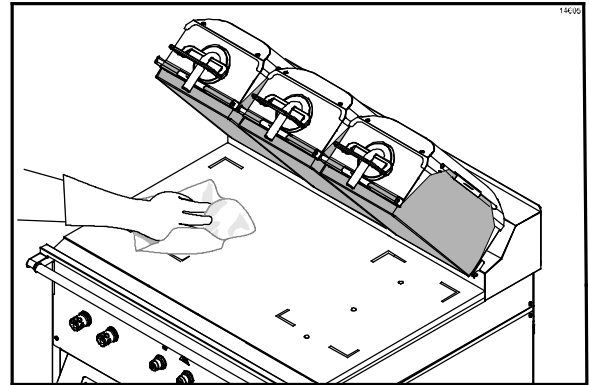

Figure 69
- 41. Wipe the lower grill surface with a clean, sanitizer-soaked grill cloth. Repeat until surface is clean. (See Figure 69.)